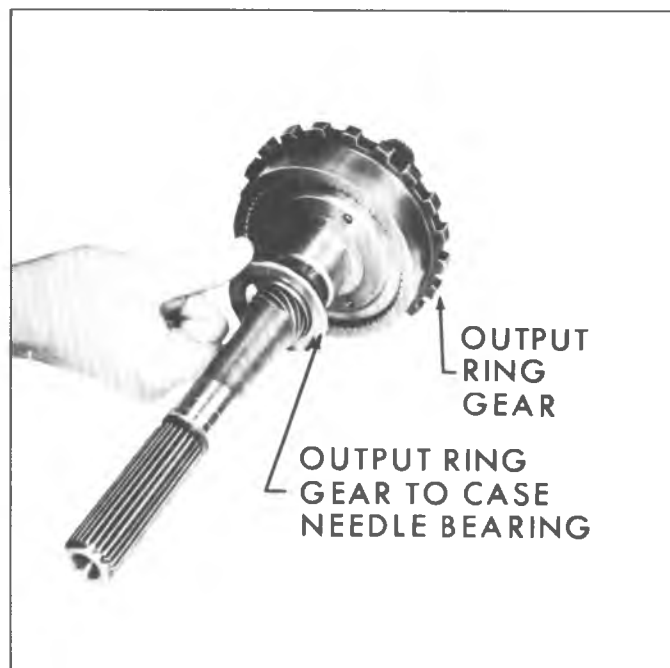

Fig. 44M--Removing Output Ring Gear to Case Needle Bearing Assembly
20. Remove output ring gear to case needle bearing assembly (fig. 44M).